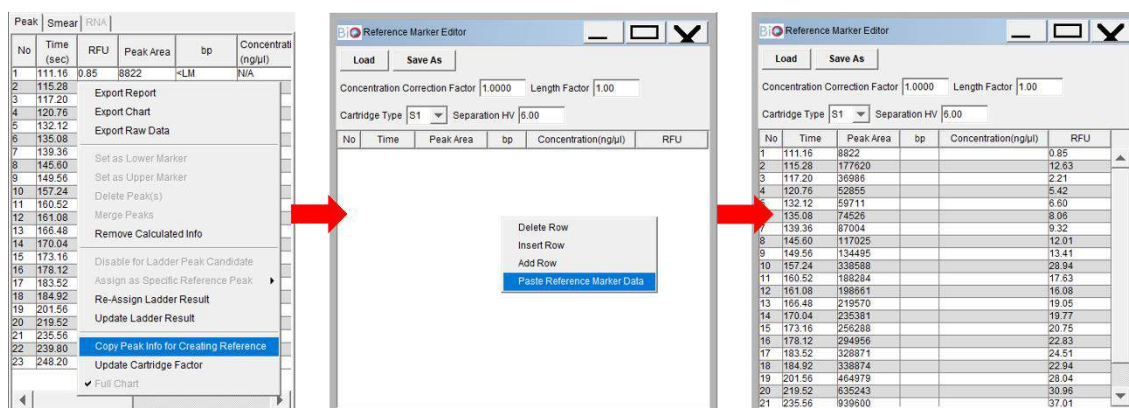

Figure 4-15 Edit Reference Marker Table
**Load** to renew the saved reference file (.rfm) or reference pack file (.rfmx) shown in Figure 4-15.